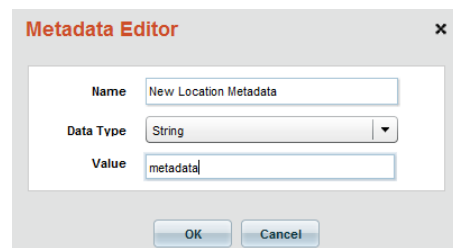

FIG. 196 Metadata Editor dialog (Adding New Location Metadata)
2. Click **Add** to add a new metadata definition to the selected Location. This action invokes the *Metadata Editor* dialog (FIG. 196):